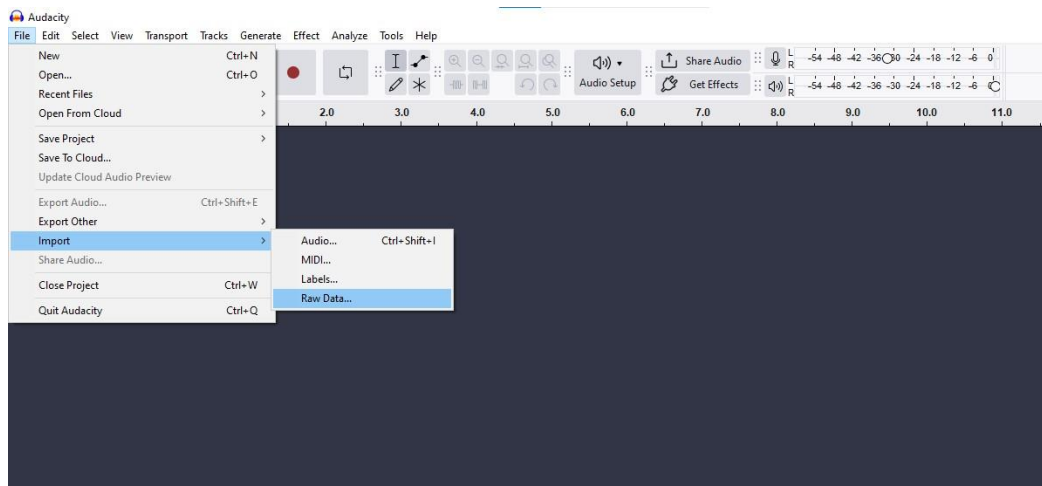

Figure 49: Import the saved RAW file
- 1 Go to File Tab > Import > Raw Data, select the saved RAW file from file location, and click Open as shown in Figure 49.